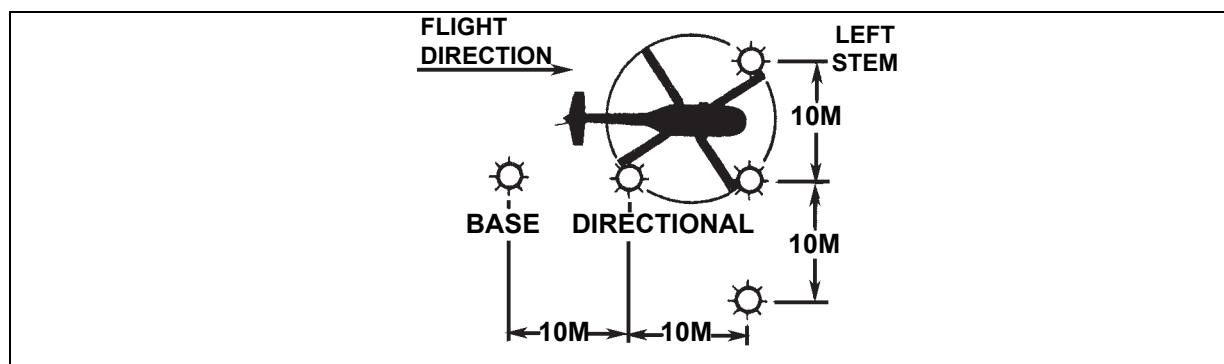

Figure 4-12. "T" Light Formation
- **The "T" Light Formation.** The "T" light formation is set up using five lights placed according to figure 4-12. The cargo is positioned 5 meters to the left of the base light and midway between the base light and stem light. The lead aircraft lands to the left of the base light and just short of the stem lights.